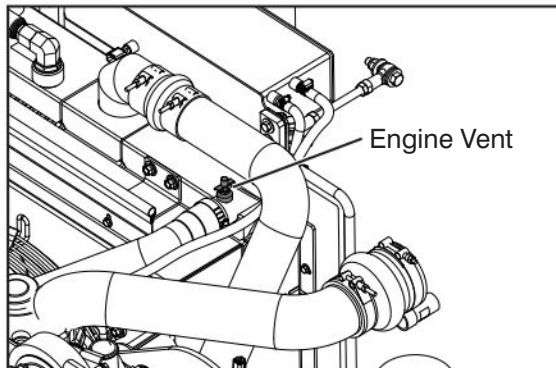

Figure 2-32 Engine Vent Location
1. Open engine vent. Leave vent open during radiator fill. Refer to Figure 2-32.